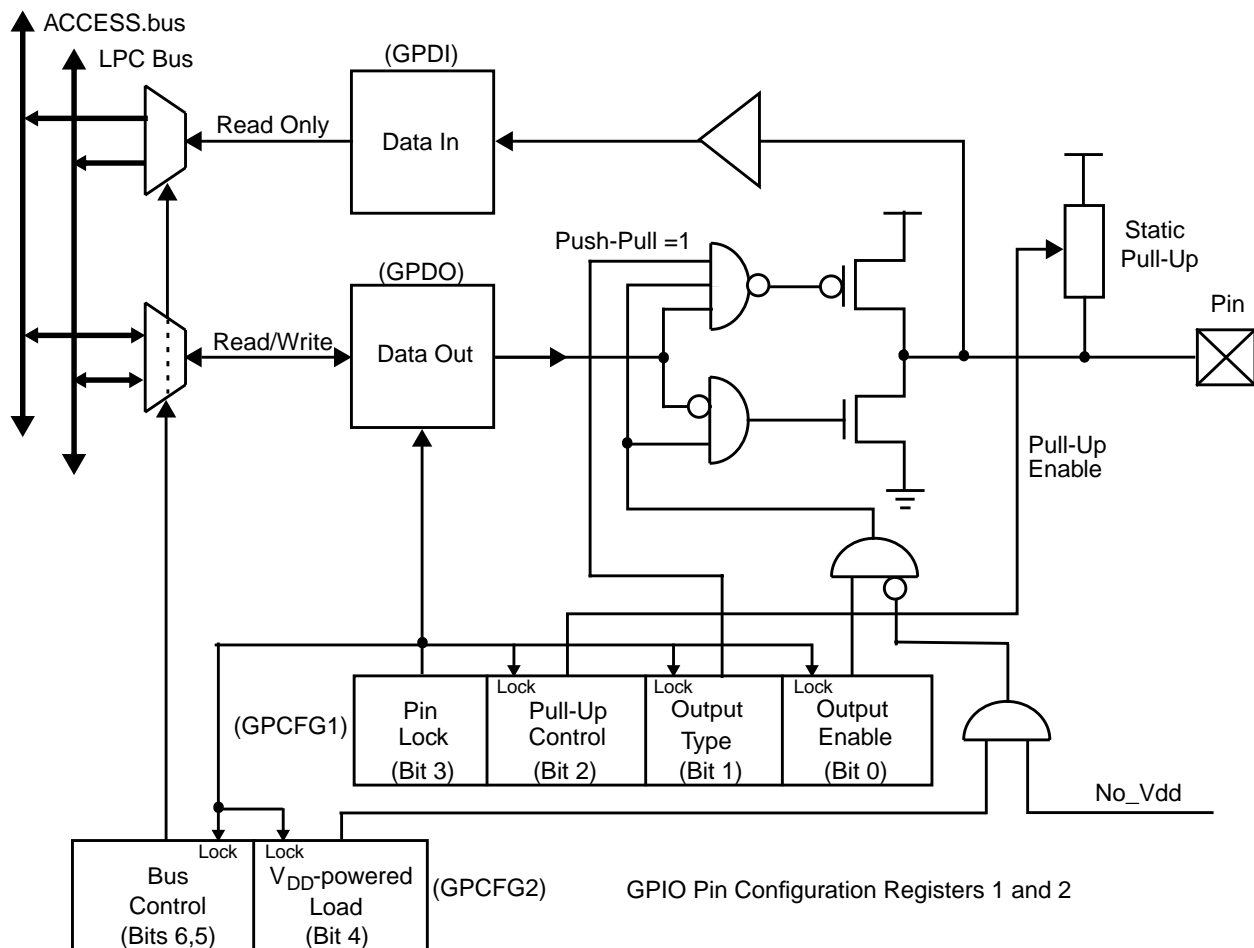

Figure 36. GPIO Basic Functionality
The basic functionality of each GPIO pin is based on four configuration bits and a bit slice of runtime registers GPDO and GPDI. The configuration and operation of a single pin GPIOXn (pin 'n' in port 'X') is shown in Figure 36.
- Access Control - Limits access to the specific pin from only one of the buses (ACCESS.bus or LPC bus). When access from a bus is disabled, attempted writes to the Basic Functionality configuration registers (GPCFG1 bits 3-0 and GPCFG2 bits 6-4, none of which are shown in Figure 36) and to the corresponding bit in the GPDO register are ignored. Reads from the bits above and from the corresponding bit in the GPDI register are allowed and return the actual bit value. Bus access is controlled by Bus Control bits (bits 6 and 5). After reset, both bits are '0' and access is allowed from both ACCESS.bus and LPC bus. **In the PC87414 and PC87416, this feature is irrelevant because only the LPC bus is available.**